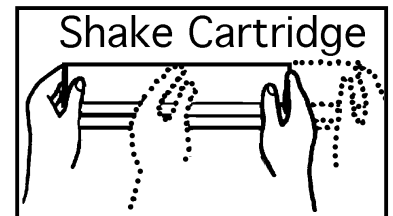

Figure 3
6. Shake the new cartridge left and right a few times before lowering it into the notches on the toner transfer unit (Fig. 3). Do not slide it into place yet.